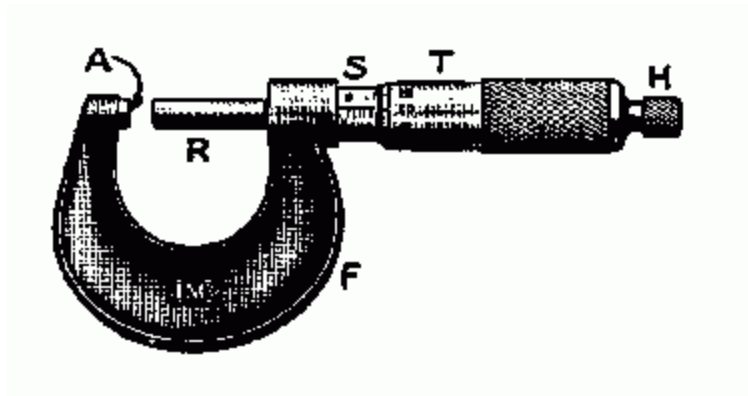

Figure 1
**Micrometer Caliper.** Fig. 1 shows a typical micrometer caliper. The object to be measured is placed between the fixed jaw (A) and the movable jaw (R) and the jaw is gently closed on the object. The movable jaw (R) of the micrometer caliper is driven by a precise and uniform screw. A typical metric instrument has the main scale marked to 1/2 millimeter. The circumference of the rotating handle (the thimble, T) is subdivided into 50 equal subdivisions. One rotation of the handle carries the screw a distance of 1/2 mm along the main scale (S). Therefore the markings on the thimble allow one to read hundredths of millimeters.